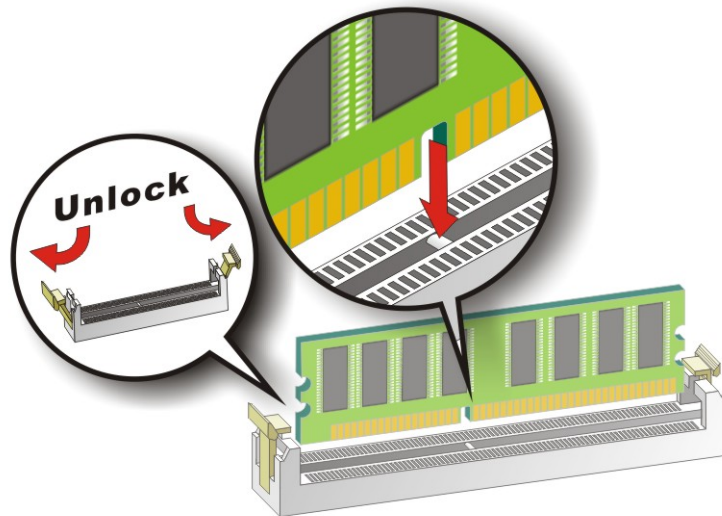

Figure 5-4: Installing a DIMM
To install a DIMM into a DIMM socket, please follow the steps below and refer to **Figure 5-4**.
- Step 1:** Open the DIMM socket handles. The DIMM socket has two handles that secure the DIMM into the socket. Before the DIMM can be inserted into the socket, the handles must be opened. See **Figure 5-4**.
- Step 2:** Align the DIMM with the socket. The DIMM must be oriented in such a way that the notch in the middle of the DIMM must be aligned with the plastic bridge in the socket. See **Figure 5-4**.
- Step 3:** Insert the DIMM. Once properly aligned, the DIMM can be inserted into the socket. As the DIMM is inserted, the white handles on the side of the socket will close automatically and secure the DIMM to the socket. See **Figure 5-4**.